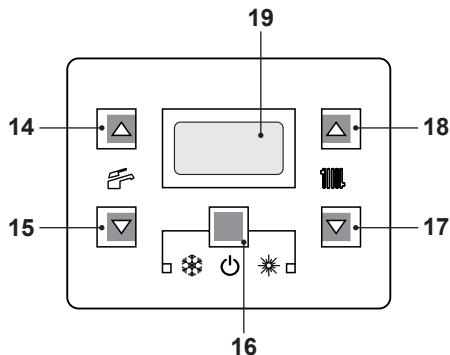
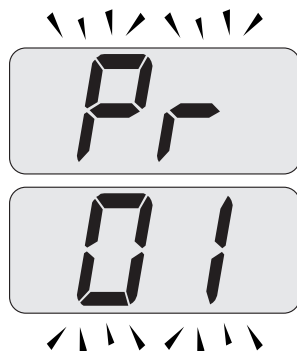
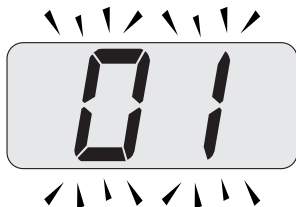

Fig. 8.31
Fig. 8.32
Fig. 8.33
- Enter the "programming mode" by sequentially pressing and holding in keys, 16 - 17 and then 18 (Fig. 8.31) for 10 seconds until the letters **Pr** that alternate with code **01** are displayed on the LCD display, indicating that "parameter 01" (Fig. 8.32) has been activated.
- Press keys 16 and 18 (Fig. 8.31) at the same time until the value of parameter 01 (65=**ADVANCE 25C** or 68=**ADVANCE 30C** or 66=**ADVANCE 35C**) is displayed on the LCD display (Fig. 8.33).
- Press keys 16 and 17 (Fig. 8.31) at the same time to exit without changing the value (return to the parameters list Fig. 8.32).
- Press sequentially keys, 16 - 17 and then 18 (Fig. 8.31) and hold in for 10 seconds to exit the "programming mode".